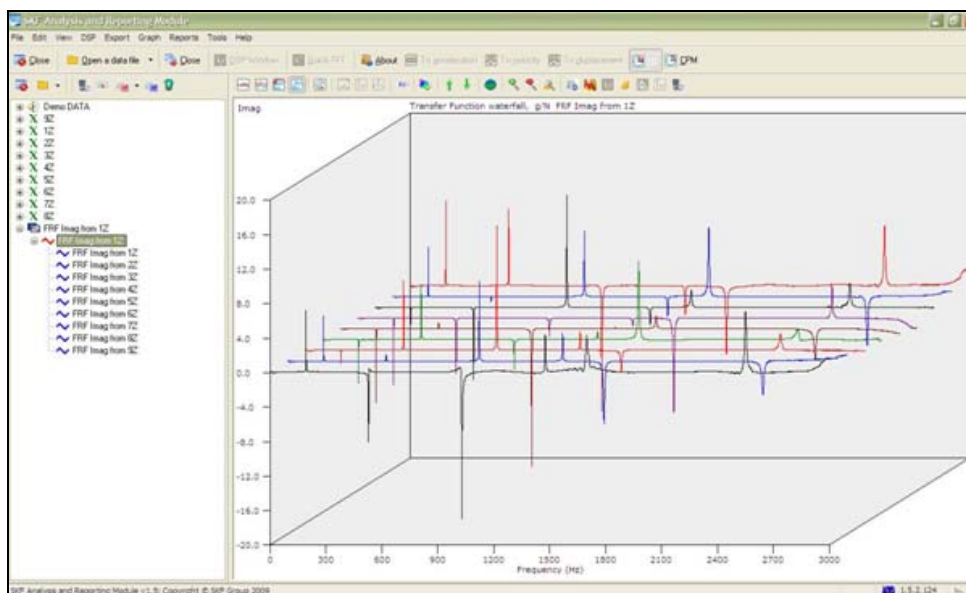

Figure 8. Imaginary data
8. Select **Graph > Y axis > Scale > Imaginary** to revert the plot to imaginary data. [Figure 8]